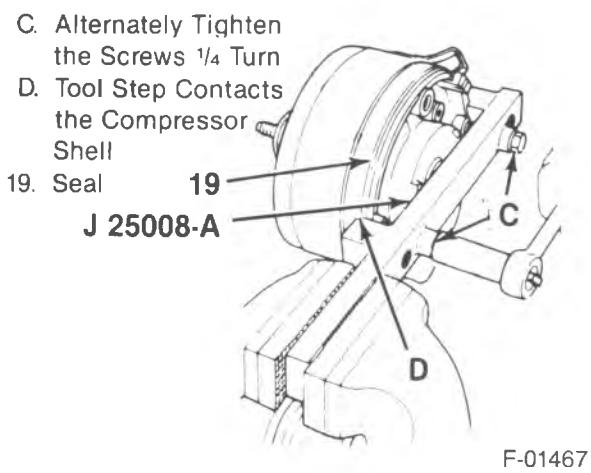

Figure 24—Removing the Shell
4. Shell (18) (figure 24).
- Alternately tighten each bolt 1/4-turn to push the shell free of the seals (19) on the cylinder.